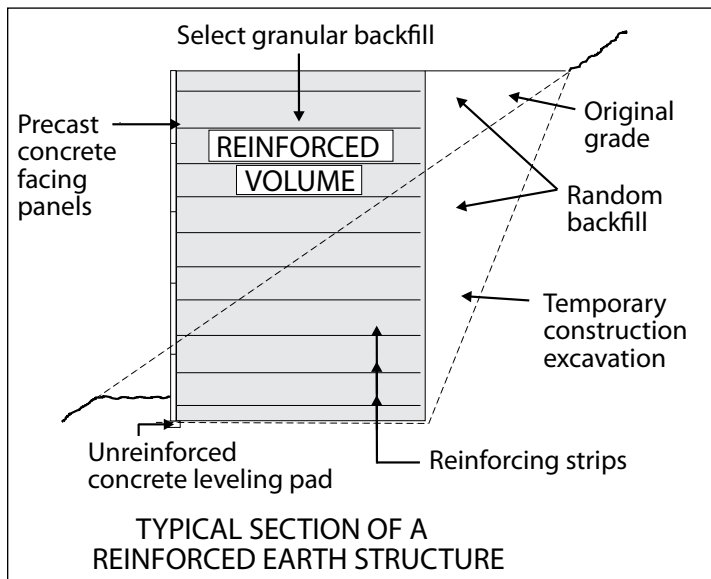

Figure 1
A Reinforced Earth structure constructed using this technique is shown as the “reinforced volume” in Figure 1. Precast Concrete panels are used at the face of the reinforced volume to prevent erosion of the backfill and to provide an attractive, finished appearance.
- Lumber for the initial course of panels (Figures 1)
- Large Size Caulking Gun for (2) lb tubes